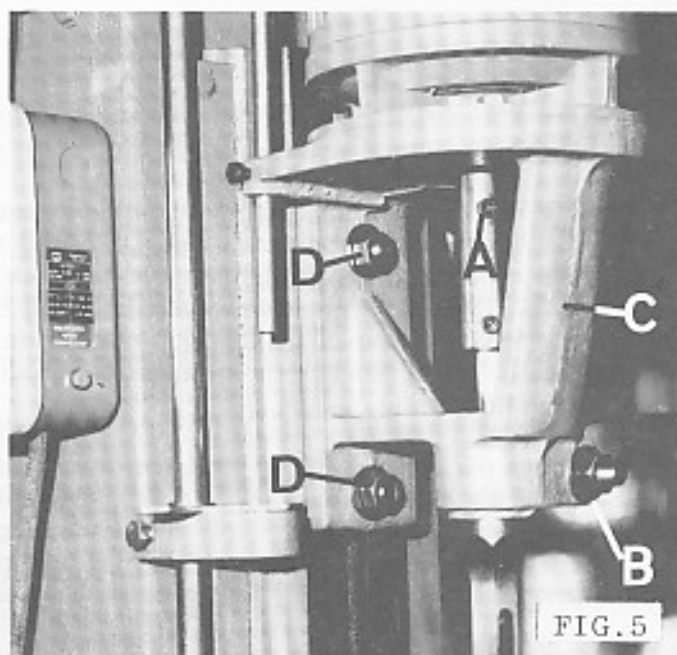

FIG. 5
The bit is held in the machine spindle by means of the hollow set screw "A", in Fig. 5. The bore of the spindle is 16mm (5/8") and the machine is supplied with a bush so that all sizes of bits can be fit up to the maximum sizes required for 25mm (1") square chisel. The chisel is held in a special bracket below the machine spindle and is locked in position by means of the hexagon nut "B" in Fig. 5. The bore of the bracket is 30mm (1.3/16") and one bush is supplied so that all sizes of chisel can be used up to maximum size of 25mm (1").
- 2 Manually support head unit "C" Fig. 5, and loosen the 2 hexagon nuts "D".